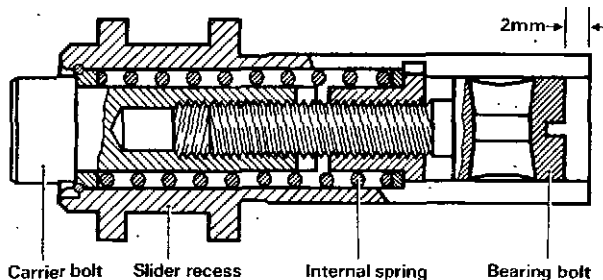
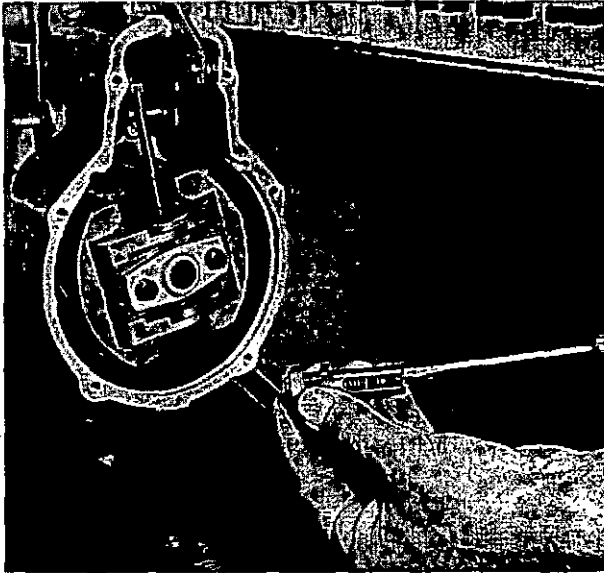

Fig. 52 Adjusting pin - sectioned
Fig. 54 Adjusting pin and coupling bolt
This pin (fig. 52) connects the flyweight coupling bolt to the slider in the governor hub. Check that its spring and bearing surfaces are serviceable. The setting of the pin should not be disturbed unnecessarily but if adjustment is unavoidable it should be carried out as described later, under 'ASSEMBLING' and also in Part 5, Stage 'B'.
3. Check that the internal spring of the adjusting pin (fig. 52) has no end play and yet is not compressed. Adjust, if necessary, by turning the castellated carrier bolt relative to the eyed bearing bolt at the opposite end. Finally, set the bearing bolt 2 mm. below the end face of the adjusting bush, as shown, and assemble the adjusting pin to the guide bush bore, securing it by temporarily fitting the coupling bolt (fig. 54), which passes through the eye of the bearing bolt.
4. Pull the adjusting pin rearwards sufficiently to draw the flyweights inwards, but without exerting excessive load on the internal spring of the pin. In this position the measuring gauge 1 682 329 038 should fit snugly into the slider recess of the adjusting pin (figs. 52 and 55). Adjust, if necessary, by means of the bearing bolt in the adjusting pin, as shown in fig. 54.